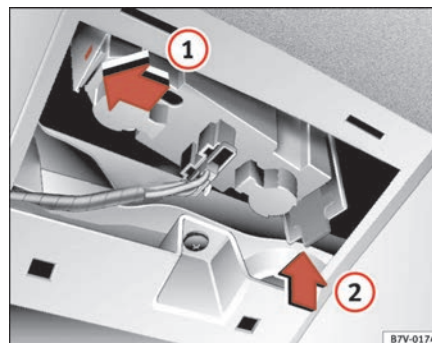

Fig. 167 Lights on tailgate
- Fit the lampholder in the corresponding opening ① at the front tab and press the lampholder upwards at the back ②, until the elastic tab engages ⇒ page 247, fig. 167.